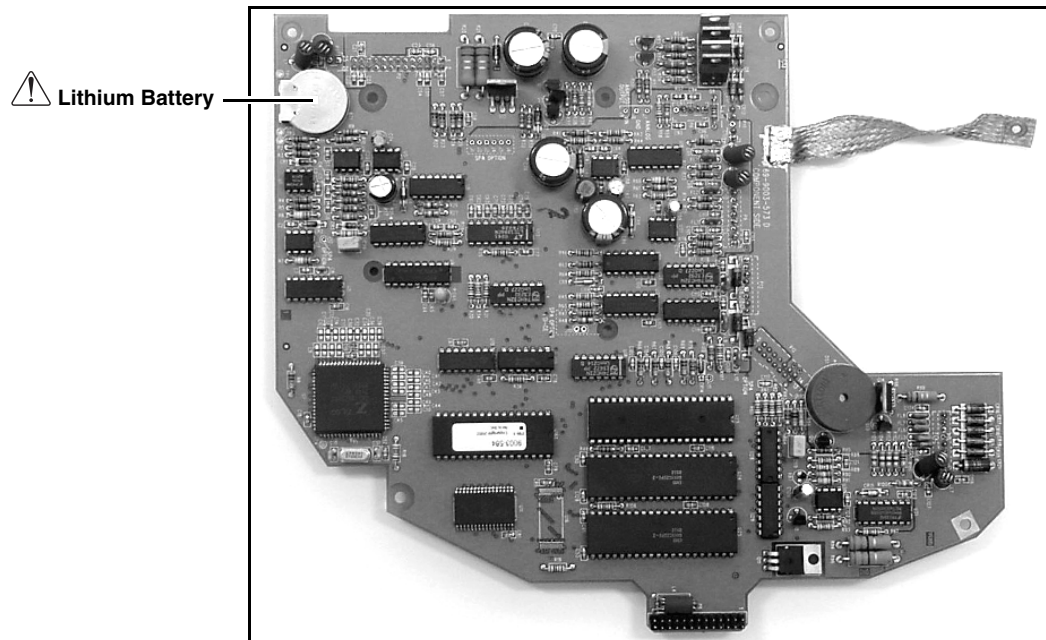

Figure 9-7 Lithium battery
7. Turn the board over and locate the lithium battery on the component side (Figure 9-7). De-solder the lithium battery, using care to prevent damage to the circuit board. Insert the replacement battery (Teledyne Isco Part Number 304-5030-00) and solder it in place.